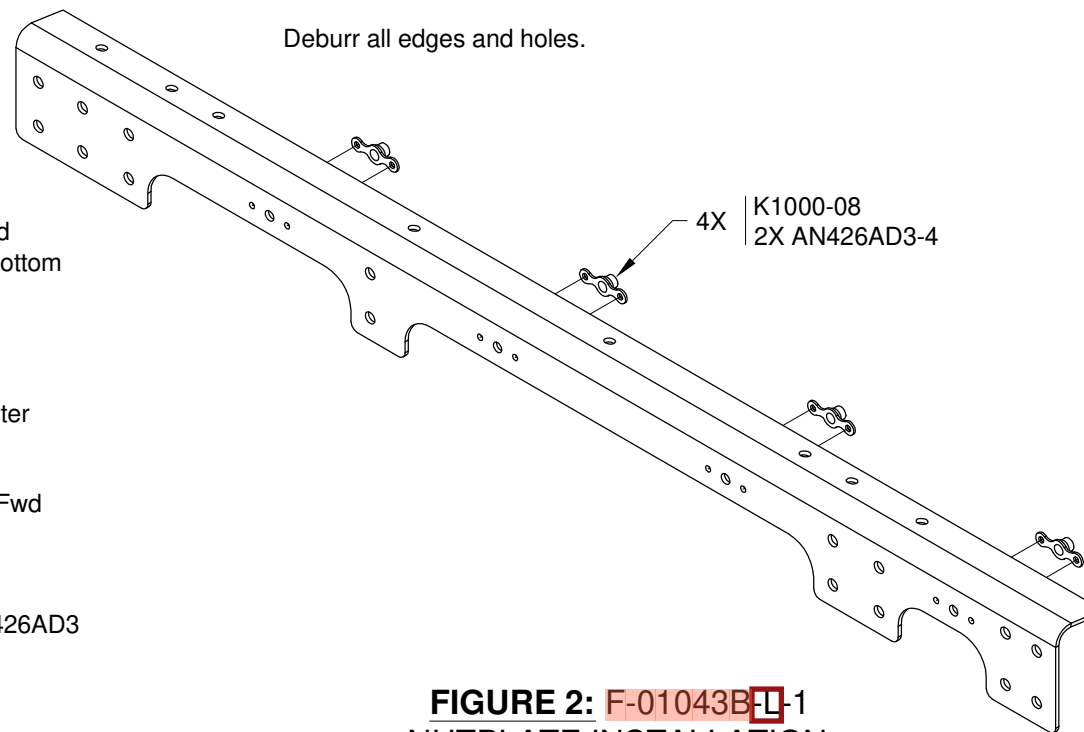

FIGURE 2: F-01043B-L 1 NUTPLATE INSTALLATION
Machine countersink the nutplate attach holes in the web of the fwd fuselage bulkheads to fit the head of an AN426AD3 rivet. See Figure 2.
Step 8: Remove the **F-1049A-L** & **FR**, **F-1049B-L** & -R, **F-01049C-L** & -R-1, and **F-1049D-L** & **FR** Fwd Fuselage Floor Ribs. See Page 28-5, Figure 2.
Dimple all of the #30 holes in all of the F-1049 Fwd Fuselage Floor Ribs EXCEPT the holes in the forward and aft tabs and the most forward hole in the upper flange. See Page 28-5, Figure 2.